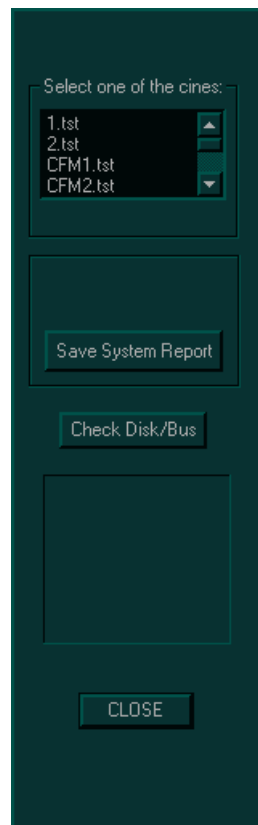

Figure 7-54 Benchmark Testing Options
- 2) Trackball to the **Computer Testing** button and press **Select**. The options shown in Figure 7-54 "Benchmark Testing Options" on page 7-83 are displayed.